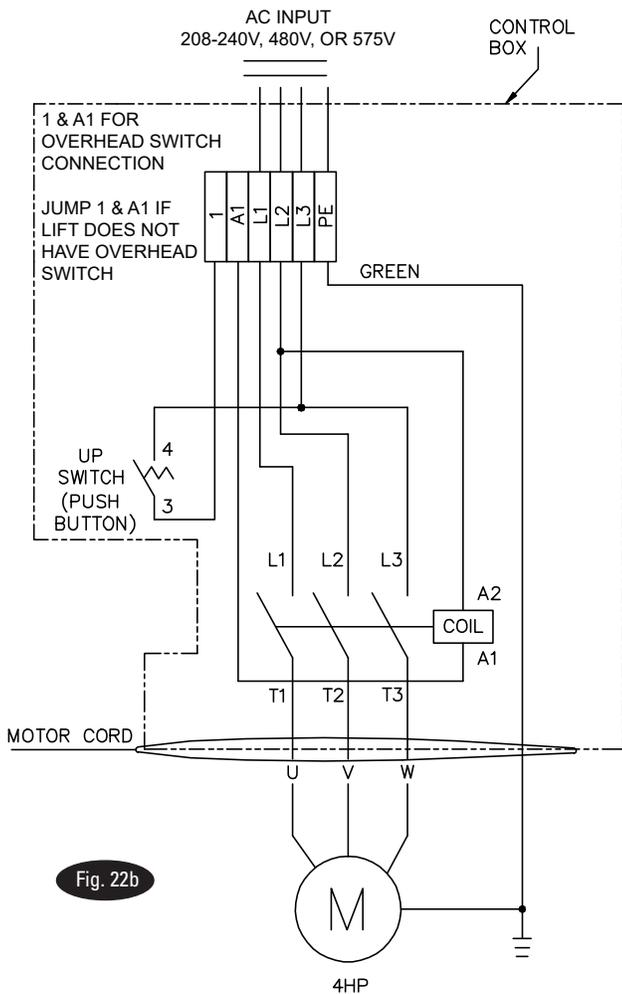

Fig. 22b
**IMPORTANT:** Use separate circuit for each power unit. Protect each circuit with time delay fuse or circuit breaker. For single phase 208-230V, use 20 amp fuse. Three phase 208-240V, use 20 amp fuse. For three phase 400V (\*E Model) and above, use 10 amp fuse. For three phase 380V (\*S Model) use 16 amp fuse. For wiring see Fig. 21, Fig. 22, and Fig.22b. All wiring must comply with NEC and all local electrical codes.
16. Overhead switch: Check overhead switch assembly to assure that switch bar is depressing switch plunger sufficiently to actuate the switch. The overhead switch is wired normally open, see Fig. 21, Fig. 22, and Fig. 22b. Lift will not operate until weight of switch bar is depressing switch plunger. Verify that Power Unit stops working when switch bar is raised, and re-starts when the bar is released.